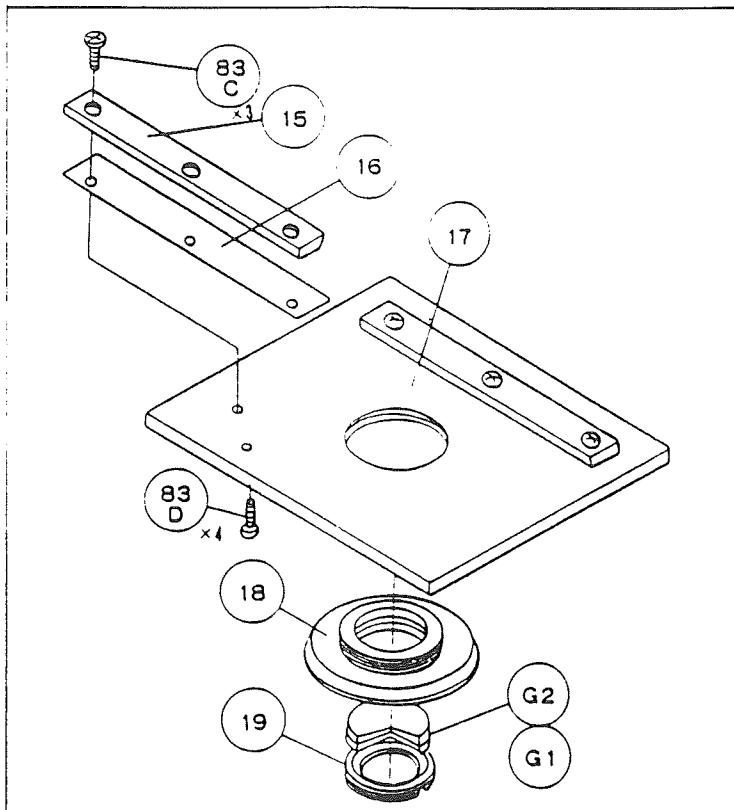

Fig. 25
- 1) Applying a trifle of adhesive No. 616 to the threaded part of mount (18), screw it into bottom plate (17) (Fig. 25).
- 2) Attach sliding plate (16) and dovetail groove (15) (the one that has not been disassembled) to (17), temporarily.
- 3) Perform the positioning of (15) in respect to (17) as below: